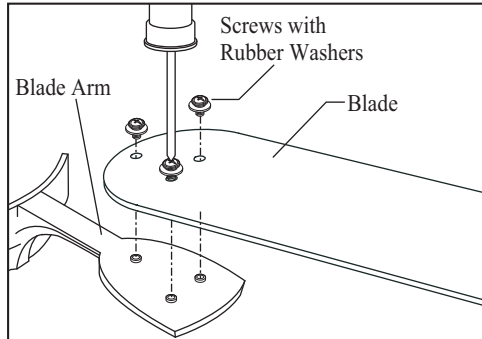

Figure 12
1. Attach blades to blade arm using the screws with rubber washers provided (Fig. 12). Start a screw into the blade arm, do not tighten. Repeat for the 2 remaining screws and washers.